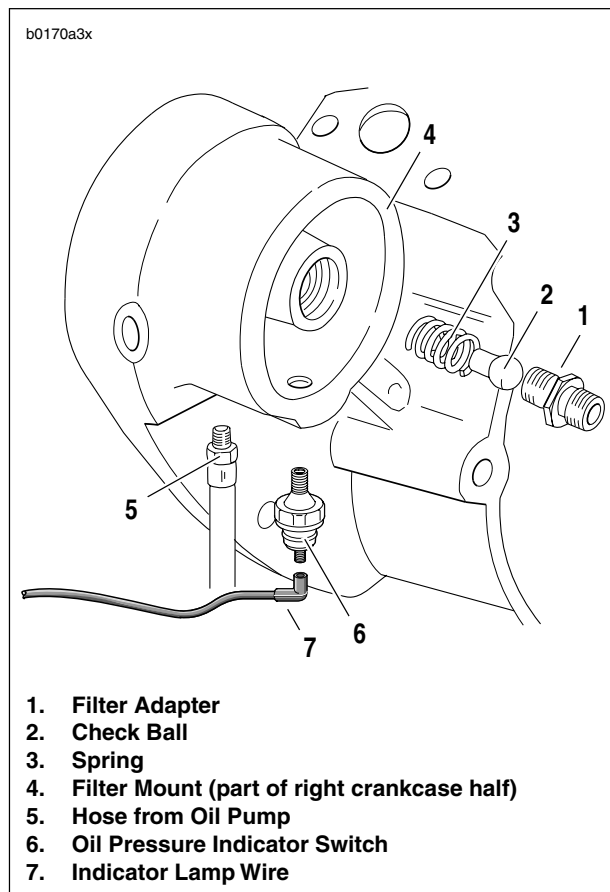

Figure 3-58. Oil Filter Mount
See Figure 3-58. Oil is pressure-fed from the oil pump to the filter mount (4) via a hose (5). Oil travels through the filter mount into the filter via outer filter holes.